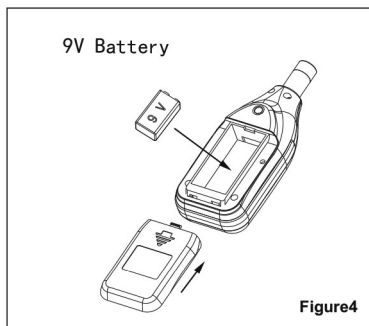

Figure4
3. When Low battery mark " - + " appears, please replaced with a new 9V battery. (Figure 4)